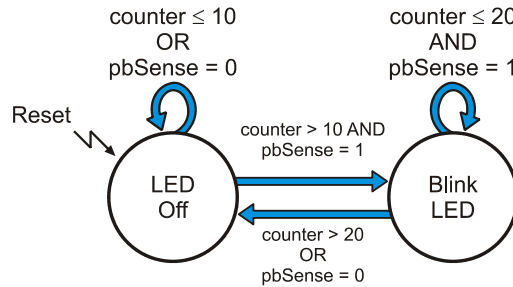

Figure 4-10
Figure 4-10 shows a modified version of the state machine diagram that involves a variable named `counter`. Because of the 100 ms pause between repeats of the `DO...LOOP` in `PushbuttonLed.bs2`, the `counter` variable keeps the LED blink-time less than or equal to 2 seconds (assuming the `counter` starts at 1). It also ensures a 1 second delay before the LED starts blinking again, even if you keep pressing the button.
- ✓ Modify the program so that it conforms to the state machine shown in Figure 4-10. Hint: use loops like `DO UNTIL counter ≥ 10` inside the `IF` and `ELSE` code blocks.